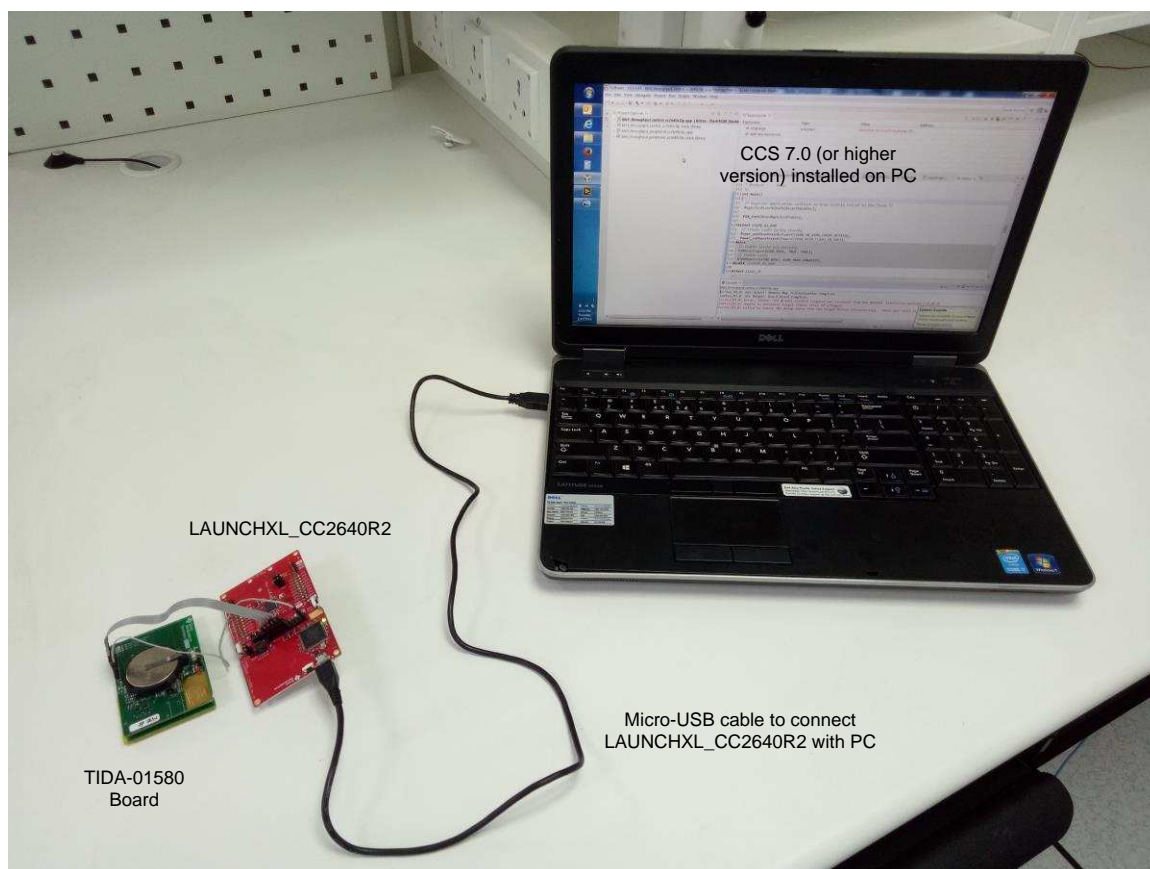
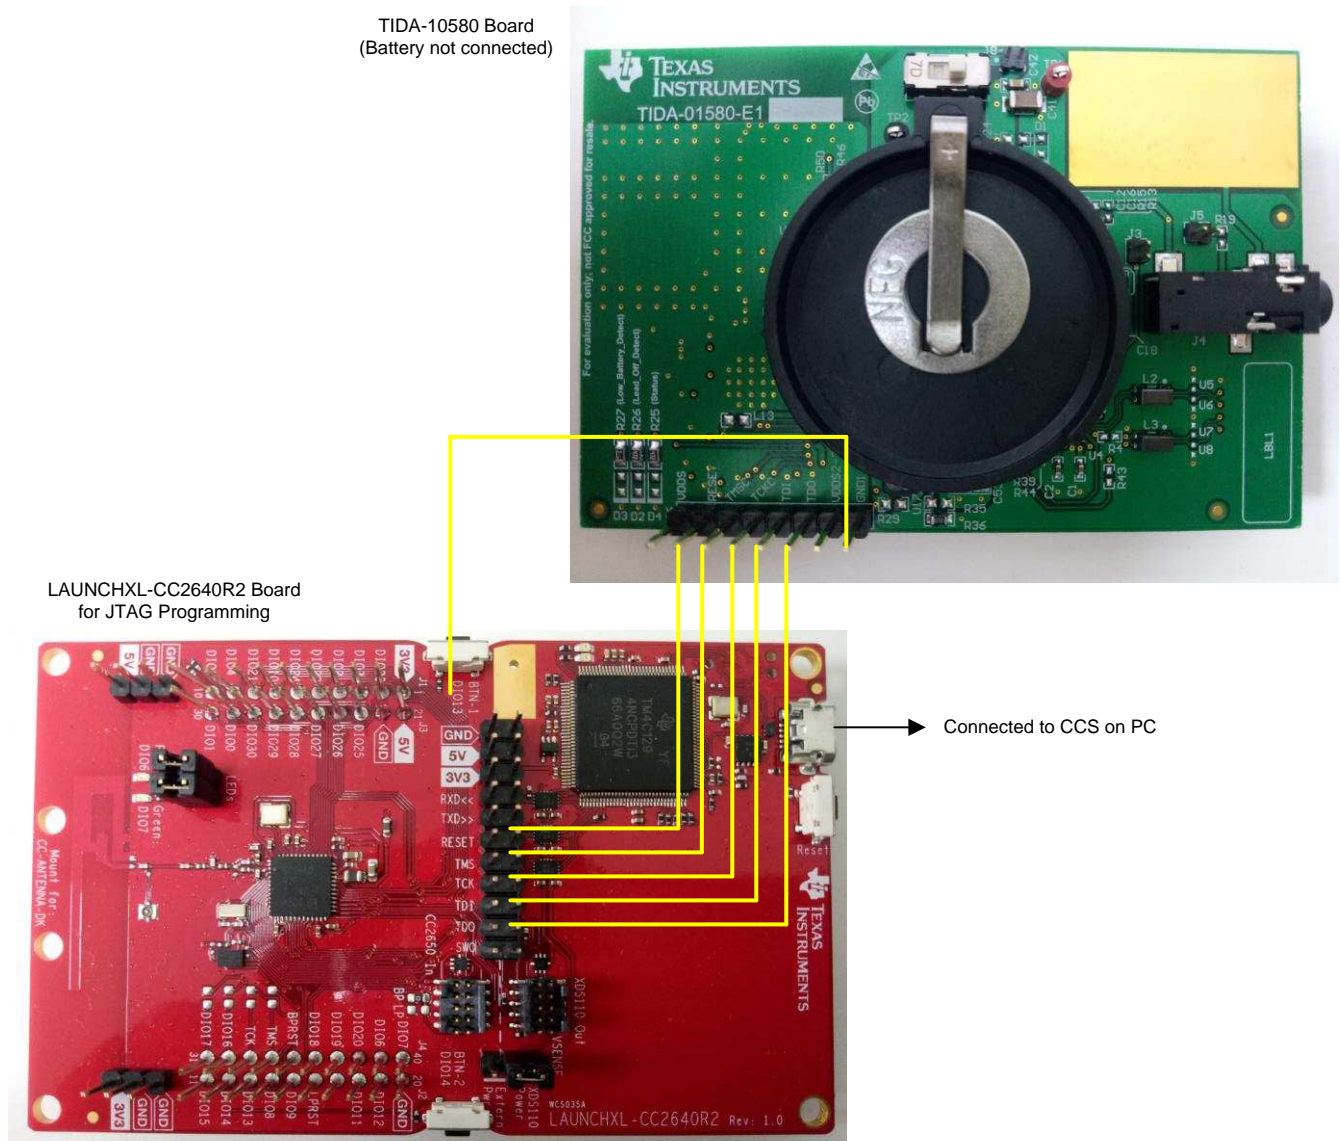

图 33. Programming TIDA-01580 Board Using LAUNCHXL-CC2640R2
图 34. Connections Between TIDA-01580 Board and LAUNCHXL-CC2640R2
1. Plug in the LAUNCHXL-CC2640R2 board on the USB port of the PC. See the setup in 图 33 and 图 34. 表 16 lists the connections between the TIDA-01580 board and the LAUNCHXL-CC2640R2 board.